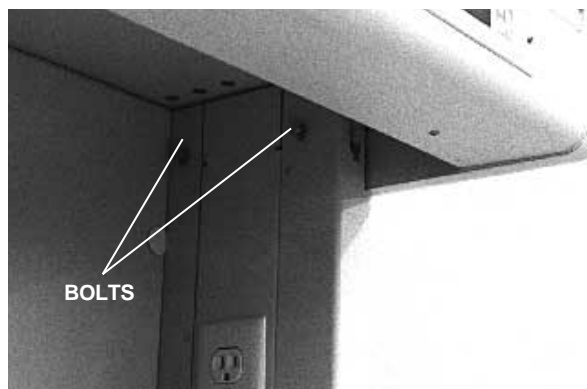

FIGURE 18
6. Have one individual steady the upper module while the other loosely installs the two hex head bolt assemblies in the positions shown in Figure 18.